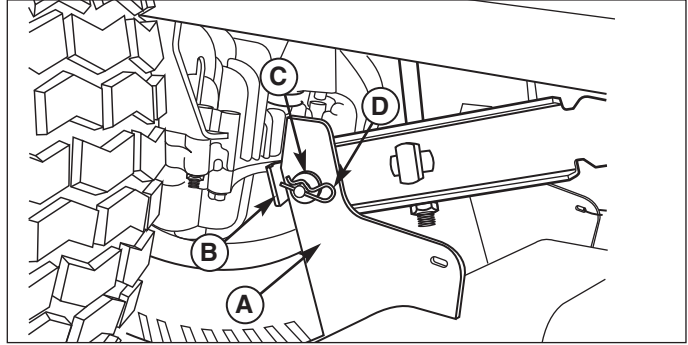

Figure 4. Lift Arms
4. Remove hair pin (D, Figure 4) and washer (C). Disconnect the mower lift plates (A) from the tractor lift arms (B). Reinstall washers (C) and hair pins (D) to prevent loss.
4. Reinstall hair pins (D, Figure 4) and washers (C) into the mower lift plates (A) and the tractor lift arms (B).